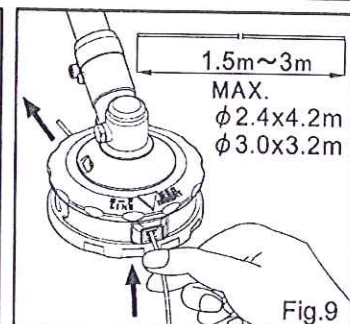
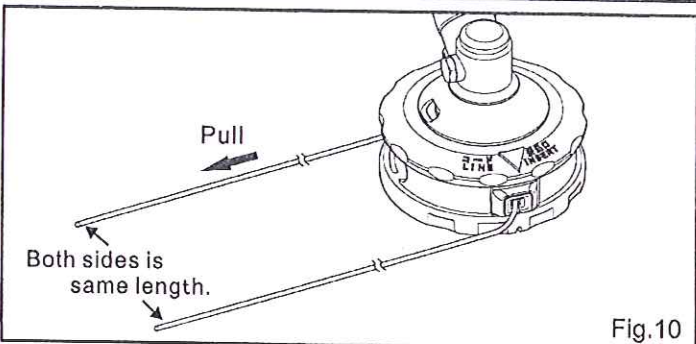

Fig. 9
Fig. 10
2. Cut the nylon line to 1.5 to 3 meters. Insert the line into the eyelet under ▼ mark. (Fig. 9) Adjust the nylon line of both sides to the same length. (Fig. 10)